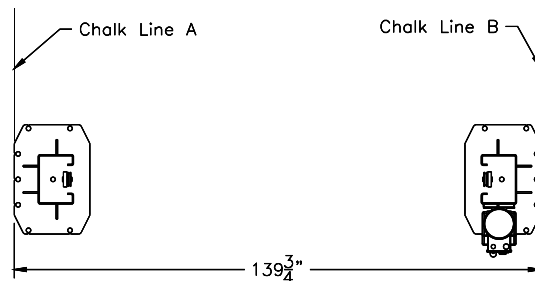

Fig. 1 – Column Layout
- Using the Overall Width (C) Dimension from **Fig. 1**, chalk two parallel lines on the floor within 1/8" tolerance. Erect both column assemblies. Align the base plate edges to the chalk lines.
- 6) Recheck "Inside of Columns" dimension, **Fig. 1**. Drill the anchor holes using the base plate as a template. Drill through the floor if possible or to a depth of 5 inches minimum.